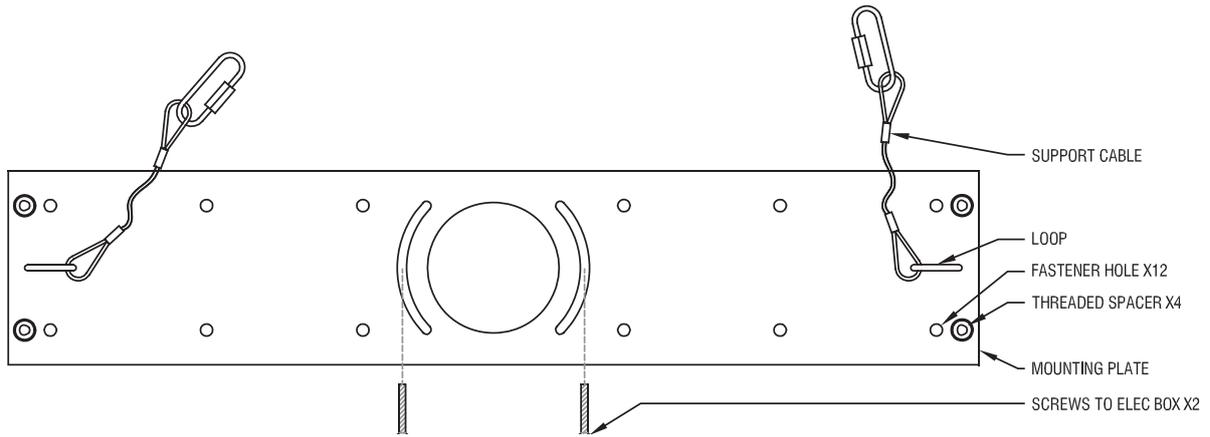

Figure 2. Install mounting plate
- 4 ( Figure 2) Position the mounting plate over the recessed electrical box. The two curved slots are to fasten the mounting plate directly to the box using the holes provided in the box. Determine the final position of the fixture such that the electrical box is accessible through the central hole in the mounting plate and the curved slots align with the fastener holes of the electrical box - the mounting plate can be fastened to the electrical box through the curved slots as a mean to temporarily support the plate during installation. Mark the locations of the other four holes such that the fasteners through these holes will fasten directly to structure - ***This light fixture cannot be supported solely by the electrical box nor drywall anchors and must be fastened directly to structure.***